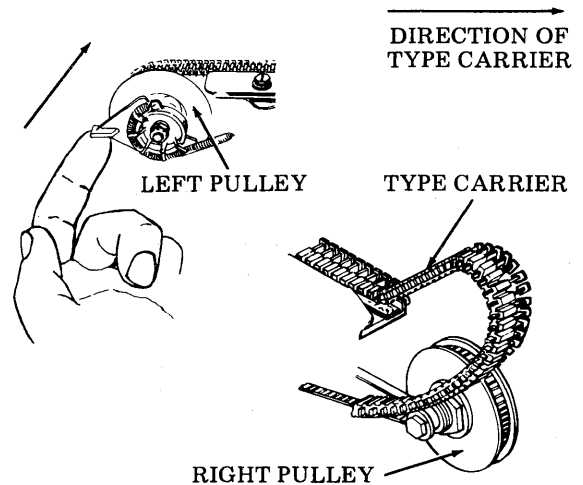

Fig. 40—Type Carrier Installation
- (c) Install type carrier starting at left pulley. Lift finger lever on left pulley and position carrier over right pulley (Fig. 40).